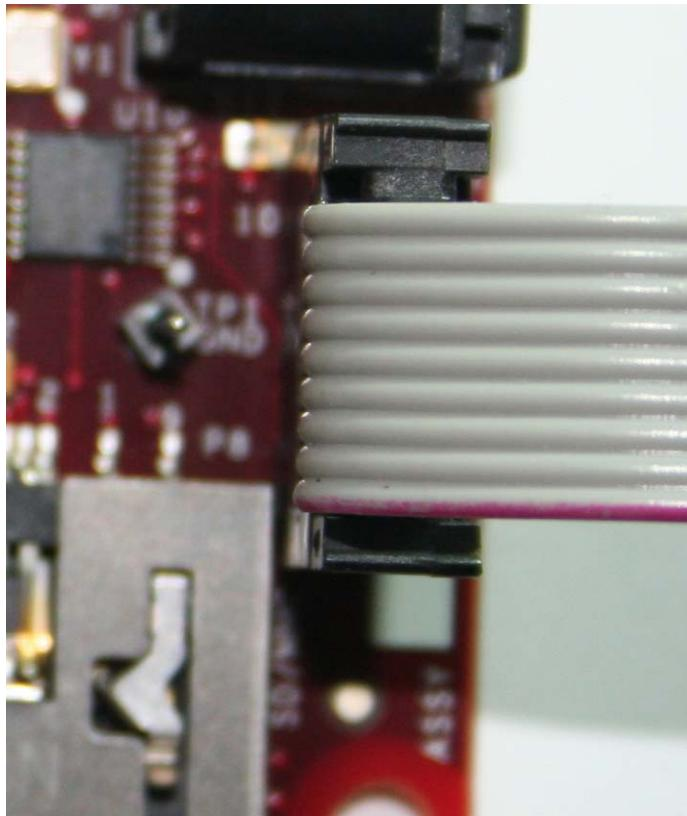

Figure 81. BeagleBoard Serial Cable Orientation
2. Make sure that the cable is plugged in correctly. The red stripe should be at the bottom next to pin1 of P9. Some cables may have the flat cable extending away from the BeagleBoard and others may be extending toward the middle of the BeagleBoard. **Figure 81** shows the proper orientation of the IDC serial cable.